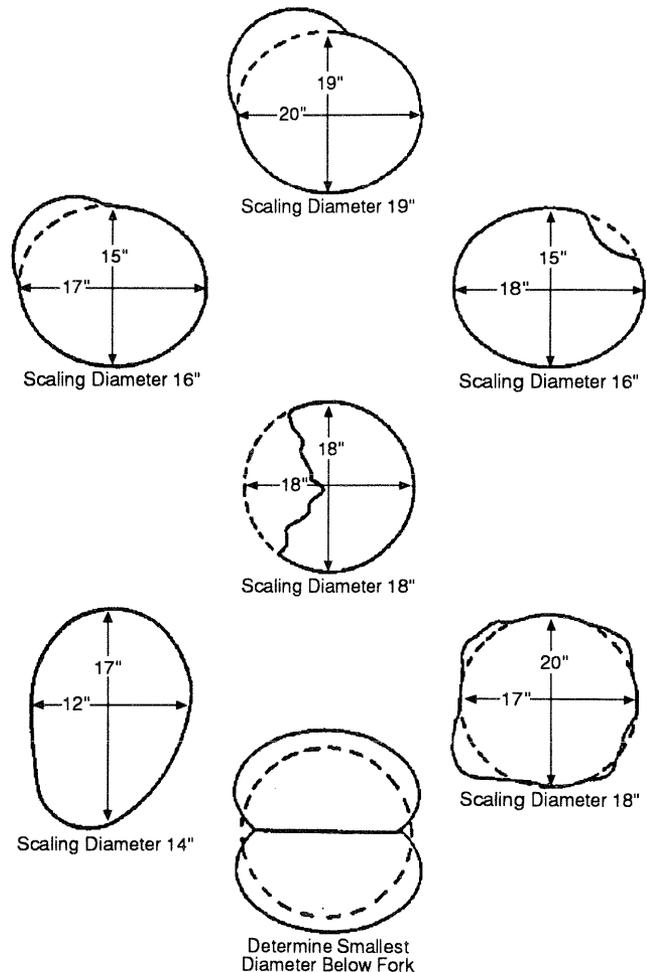

Figure 3 - How to measure logs with abnormal conditions and average the diameters.
3. In measuring, avoid abnormal bumps and depressions if possible; otherwise, measure as though such conditions do not exist (fig. 3).